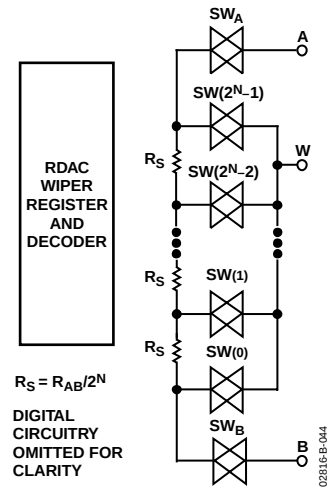

Figure 43. Equivalent RDAC Structure
The patent-pending RDAC contains multiple strings of equal resistor segments with an array of analog switches that acts as the wiper connection. The number of positions is the resolution of the device. The AD5235 has 1024 connection points, allowing it to provide better than 0.1% settability resolution. Figure 43 shows an equivalent structure of the connections among the three terminals of the RDAC. The SW_A and SW_B are always on, while the switches SW(0) to SW(2^N–1) are on one at a time, depending on the resistance position decoded from the data bits. Because the switch is not ideal, there is a 50 Ω wiper resistance, R_w. Wiper resistance is a function of supply voltage and temperature. The lower the supply voltage or the higher the temperature, the higher the resulting wiper resistance. Users should be aware of the wiper resistance dynamics, if accurate prediction of the output resistance is needed.
The 10-bit data-word in the RDAC latch is decoded to select one of the 1024 possible settings. The following discussion describes the calculation of resistance R_{WB} at different codes of a 25 k Ω part. The wiper's first connection starts at Terminal B for data 0x000. $R_{WB}(0)$ is 50 Ω because of the wiper resistance, and it is independent of the nominal resistance. The second connection is the first tap point where $R_{WB}(1)$ becomes 24.4 Ω + 50 Ω = 74.4 Ω for data 0x001. The third connection is the next tap point representing $R_{WB}(2)$ = 48.8 Ω + 50 Ω = 98.8 Ω for data 0x002, and so on. Each LSB data value increase moves the wiper up the resistor ladder until the last tap point is reached at $R_{WB}(1023)$ = 25026 Ω . See Figure 43 for a simplified diagram of the equivalent RDAC circuit. When R_{WB} is used, Terminal A can be left floating or tied to the wiper.